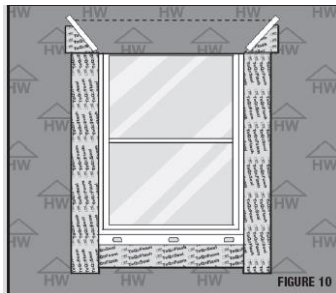

Figure 10
5.3.1 Remove tape that holds flap created in Step 1 and pull flap down over head flashing (Figure 10).